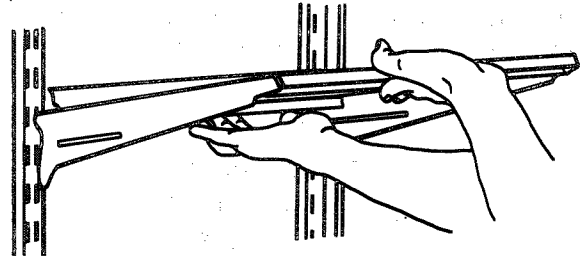

Figure 29
- a. To remove "cantilever" shelves, tap upward at back of shelf, near the metal track. See Figure 29. This will loosen shelf hooks. Lift shelf and pull out.